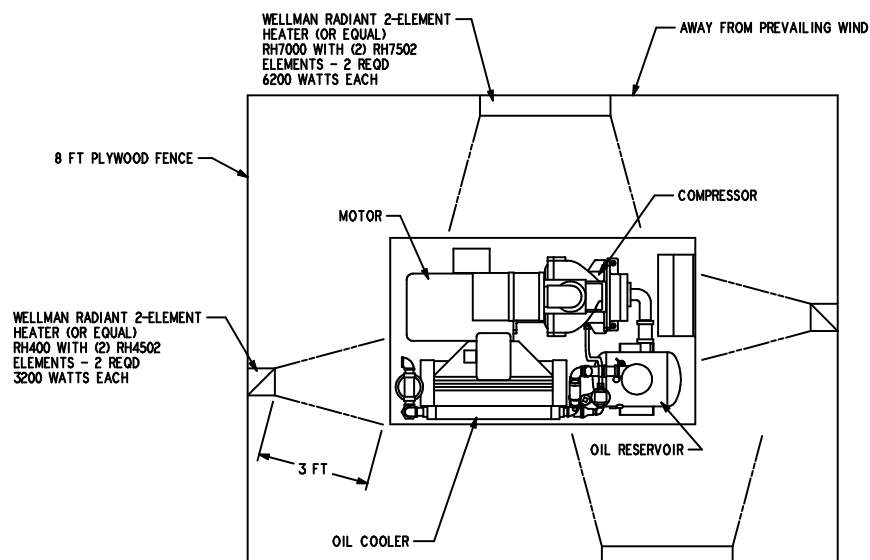

FIGURE 2-5 – INSTALLATION FOR COLD WEATHER OPERATION
5. Some means of providing heat to the oil reservoir and cooler during shutdown should be provided. There are various methods to accomplish this, but since openings are not provided for sump heaters, the use of radiant heaters is recommended. Heaters should be sized to provide at least a $+10^{\circ}$ F. environment for the coolers, motor, and sump. FIGURE 2-5 shows how these might be located in a typical installation and sizes required.